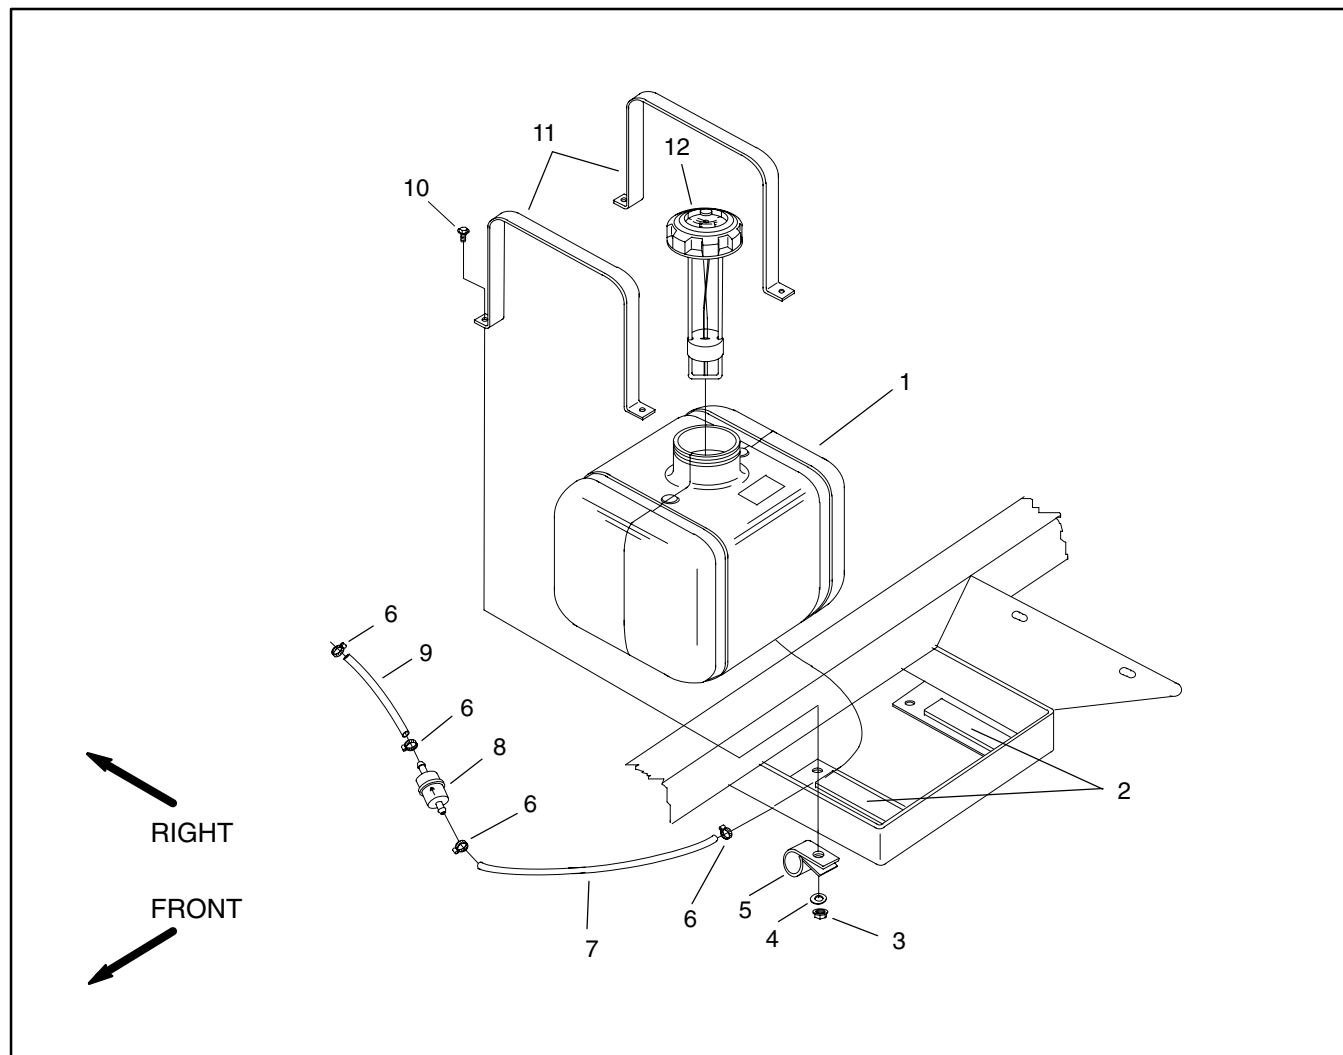

Figure 5
4. Remove fuel tank using Figure 5 as a guide.
1. Install fuel tank to frame using Figure 5 as a guide.